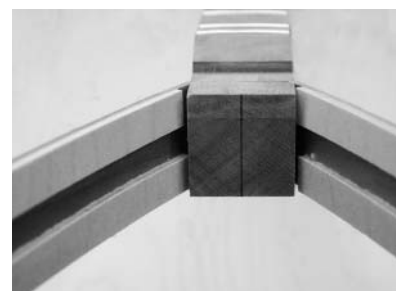

FIG. 15
- ___16. Draw a center line on the HEEL of the neck, as shown at left. This will be an important guide line when you install the SOUNDBOARD. (fig. 15)